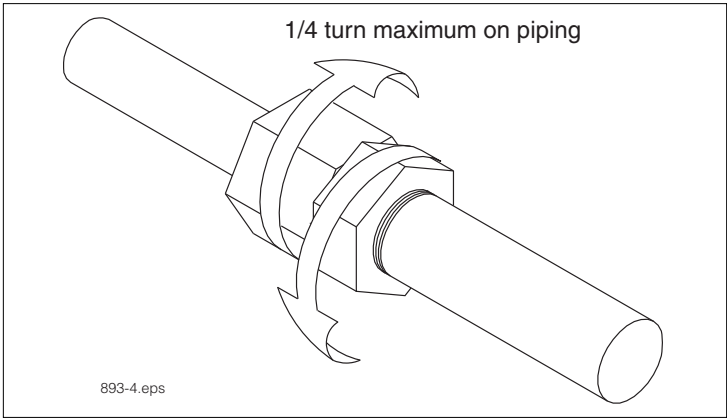

Figure 8. Loosening Locking Nut
7. Loosen the clinch assembly on the column pipe by unscrewing the set screw in the side of locking nut, then backing off the locking nut (see Figure 8) a maximum of 1/4 turn.